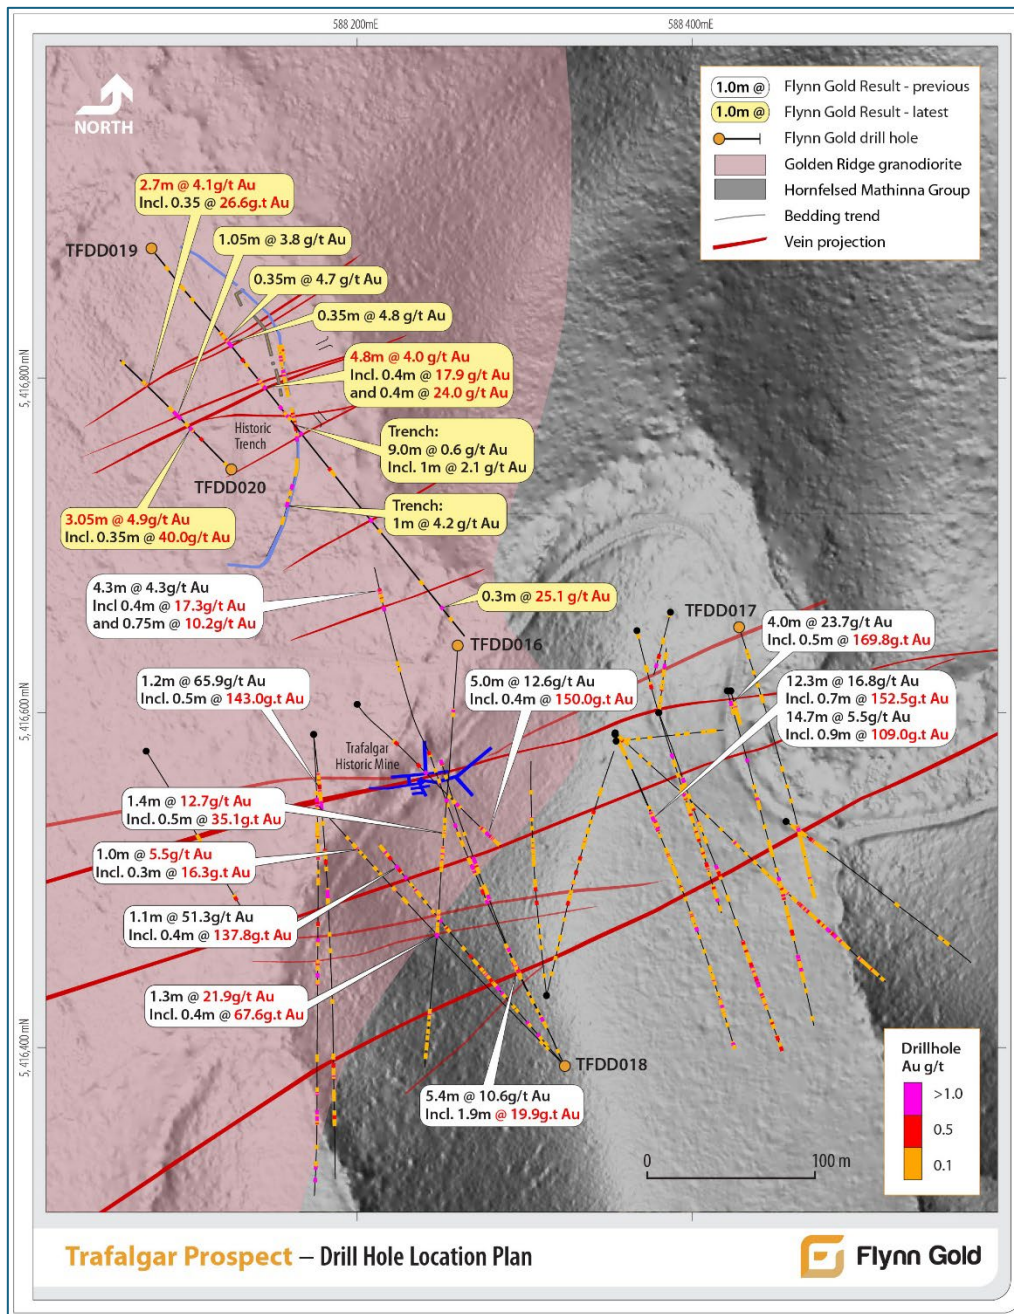
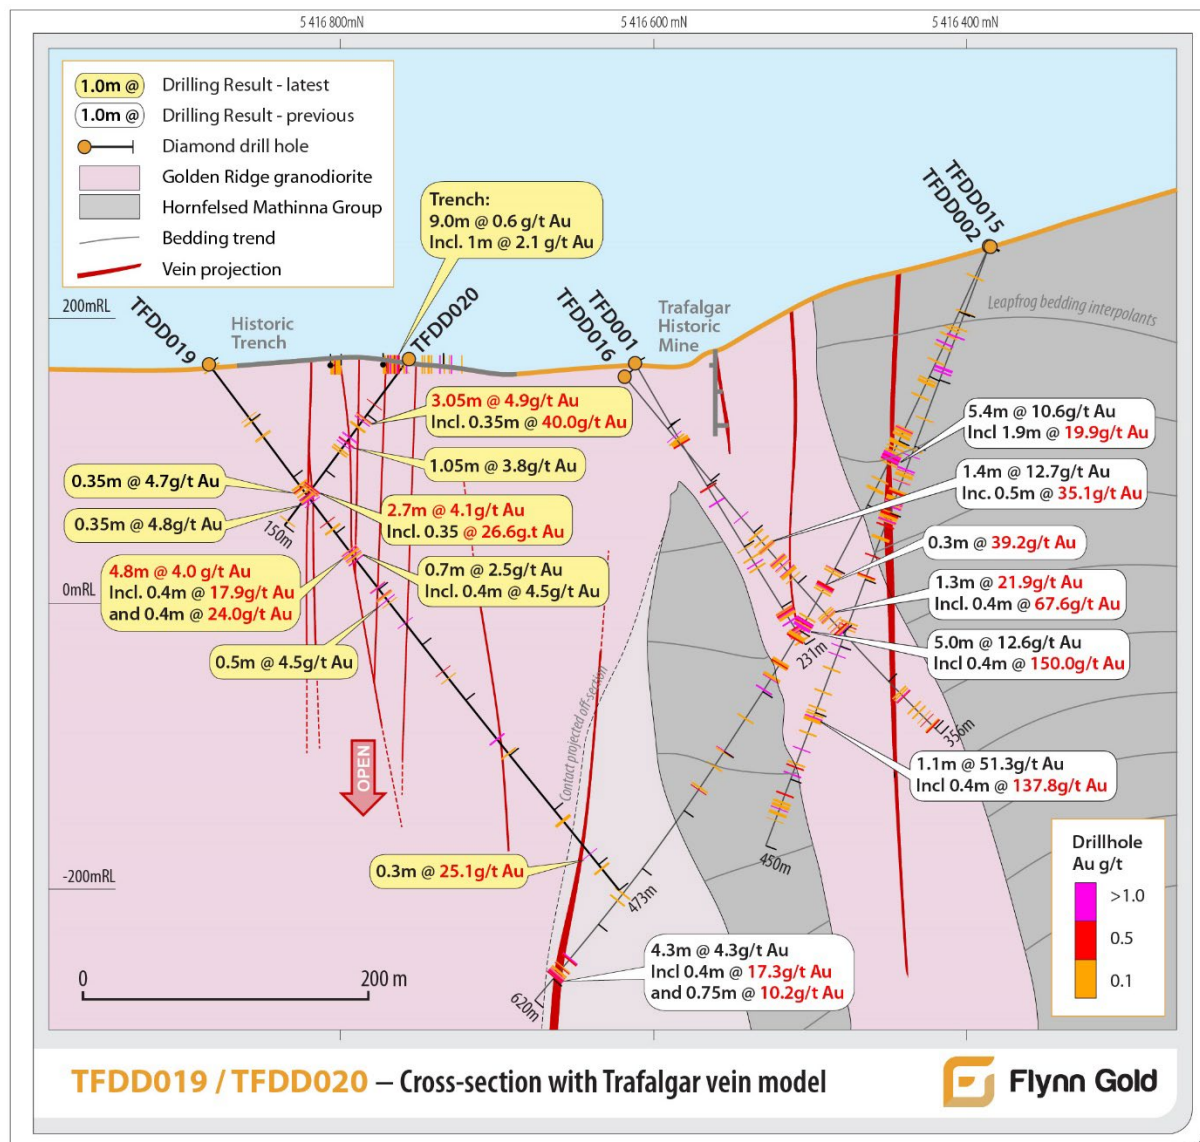

Figure 2 - Trafalgar Prospect Drill Hole Location Plan
Figure 3 - TFDD019/TFDD020 Cross Section
Two diamond holes for 623m (TFDD019 and TFDD020) have been completed, testing beneath and along strike of mineralisation discovered in the trenches (see Figure 2).
This hole was primarily designed to test depth extensions of the gold-bearing quartz vein zone at approximately 100 metres beneath surface. Multiple zones with visible signs of mineralisation were successfully intersected in the target area (see Figure 3).
This step-out hole was designed to test along strike continuation of the mineralised zone 50m to the west of TFDD019 (see Figure 2). Sulphide-rich quartz-arsenopyrite-pyrrhotite veining was intersected at 53.4m depth (0.35m @ 40.0g/t Au) and quartz-arsenopyrite-galena veining was intersected at 115.4m depth (0.35m @ 26.6g/t Au) (see Figure 3).
- 1m @ 4.2 g/t Au (see Figure 2).